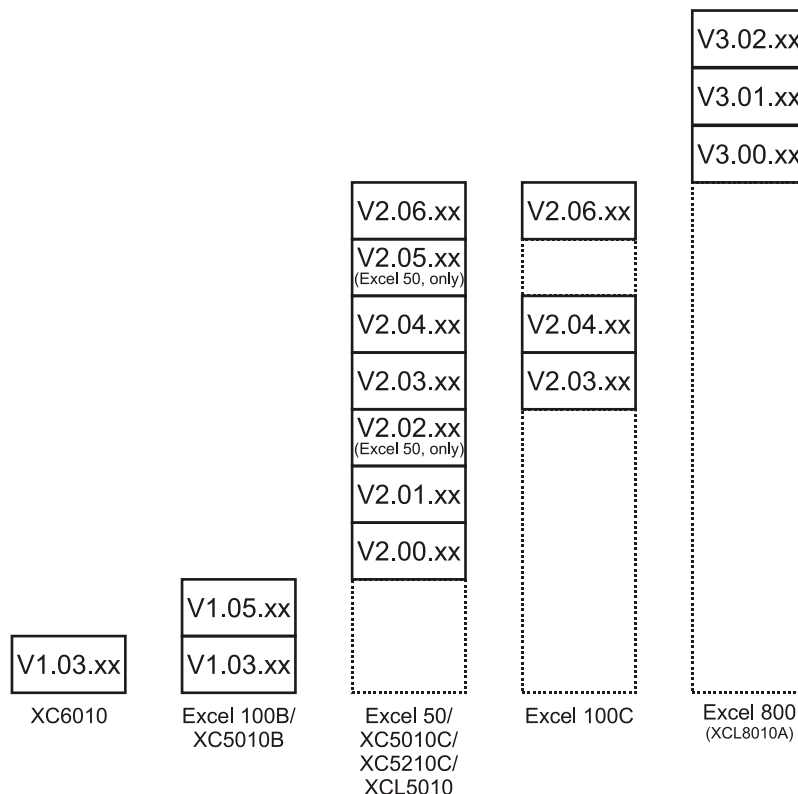

Fig. 1. Controllers and their supported firmware versions
- Firmware version number** All information appearing in this Software Description is valid for firmware versions V1.3.xx and earlier. All information, functions, and attributes valid for newer firmware versions (V1.5.xx or higher) are marked by the corresponding version number for which they are valid. Fig. 1 shows various controllers and the firmware version numbers that they support.